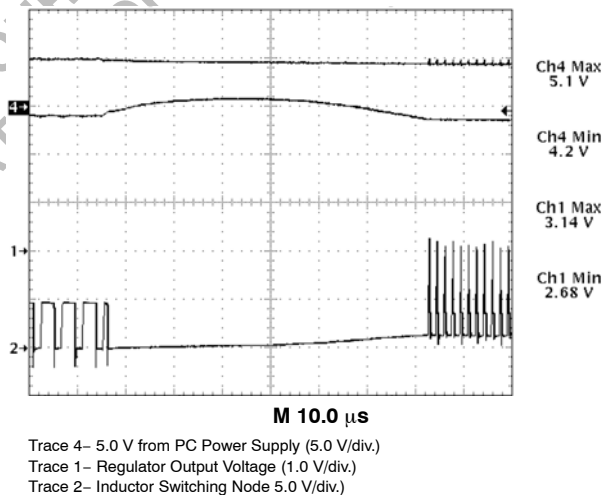

Figure 14. CS5160 OVP Response to an Input-to-Output Short Circuit by Immediately Providing 0% Duty Cycle, Crow-Barring the Input Voltage to Ground
Overvoltage protection (OVP) is provided as result of the normal operation of the V^2 control topology and requires no additional external components. The control loop responds to an overvoltage condition within $100\ \text{ns}$, causing the top MOSFET to shut off, disconnecting the regulator from its input voltage. The bottom MOSFET is then activated, resulting in a “crowbar” action to clamp the output voltage and prevent damage to the load (see Figures 14 and 15). The regulator will remain in this state until the overvoltage condition ceases or the input voltage is pulled low. The bottom FET and board trace must be properly designed to implement the OVP function.
On/off control of the regulator can be implemented through the addition of two additional discrete components (see Figure 14). This circuit operates by pulling the Soft Start pin high, and the V_{FFB} pin low, emulating a short circuit condition.
The ramp waveform is generated through a small RC filter that provides the proper voltage ramp at the beginning of each on-time cycle. The resistors R1 and R2 in the circuit of Figure 14 form a voltage divider from the GATE(L) output, superimposing a small artificial ramp on the output of the error amplifier. It is important that the series combination R1/R2 is high enough in resistance not to load down and negatively affect the slew rate on the GATE(L) pin.